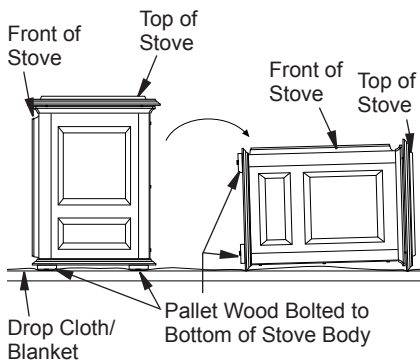

Figure 7 - Laying Down Stove On Side
- (1) - Hardware kit bag with fasteners
7. Carefully lay stove body on back to attach bottom components to stove body (see Figure 7). Rest stove on drop cloth or blanket to avoid scratching stove edges.